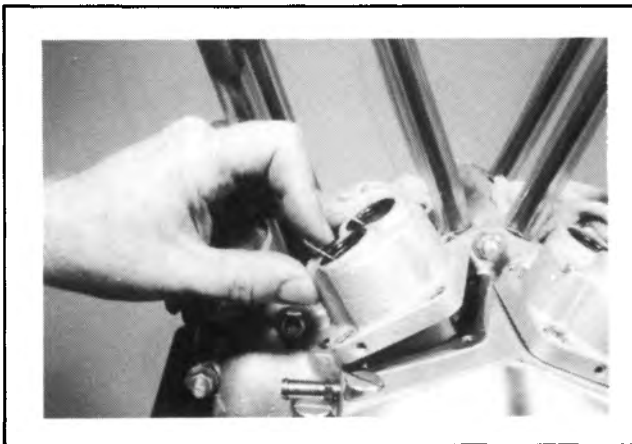

Figure 3-29. Removing Tappet & Guide Assembly
4. See Figure 3-29. To remove the tappets and guides together, fashion a U-shaped wire from a large paper clip. Insert the ends into the tappets and tilt the guide and tappets out together.